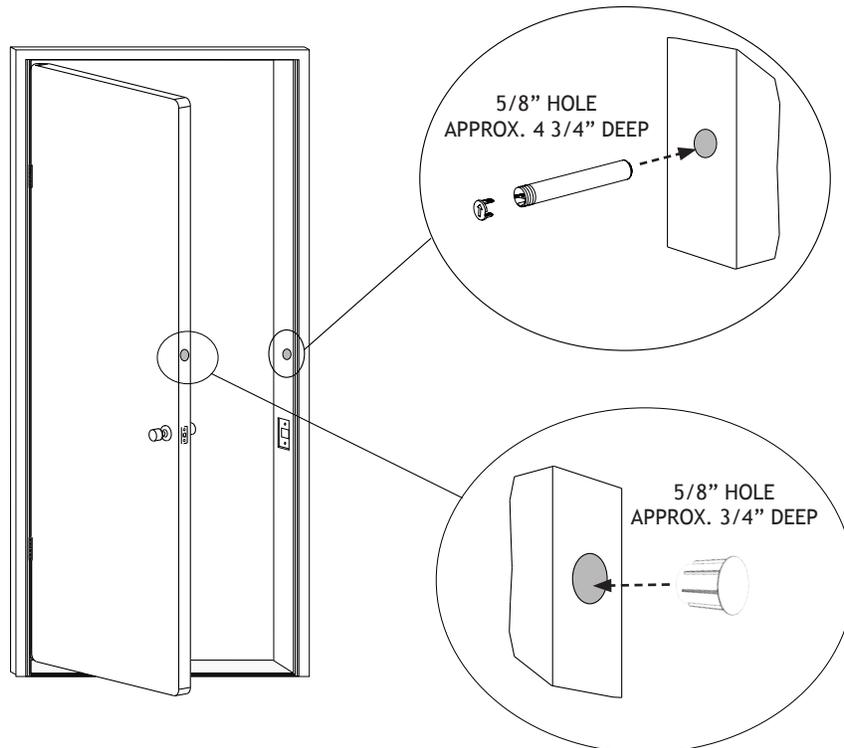

Figure 3: Installing the Recessed Contact
2. Insert the transmitter housing into the hole until the cap is flush with the door jamb. See Figure 3.
2. Insert the magnet into the hole and press into place. See Figure 3.